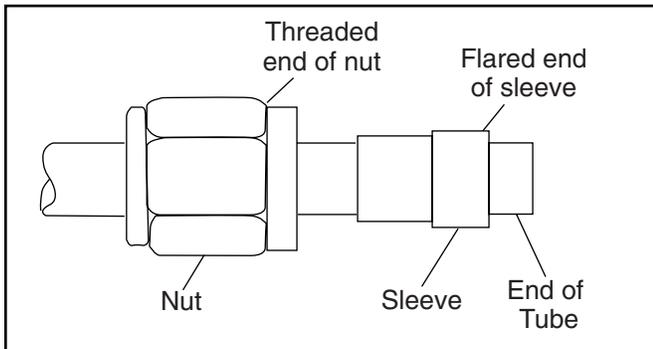

Figure 5.3 Flare Fitting
3. Place the nut and then the sleeve onto tube. The threaded end of nut and flared end of sleeve must face the end of tube. See Figure 5.3.